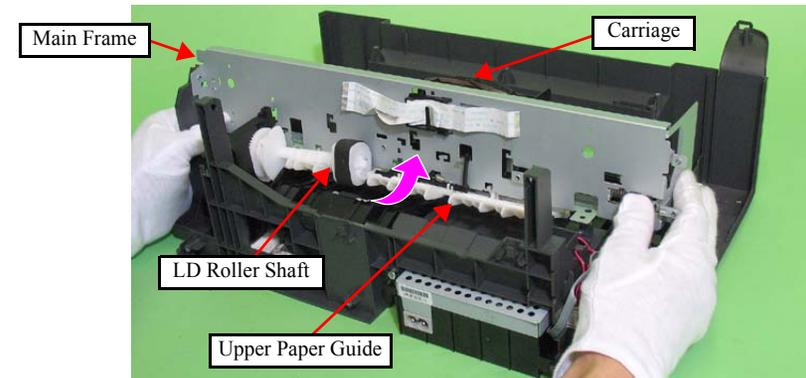

Figure 4-76. Removing the Main Frame (5)
7. Remove the Main Frame, the Carriage, and the Upper Paper Guide from the Lower Housing following the procedure below. (See Fig.4-75, Fig.4-76.)